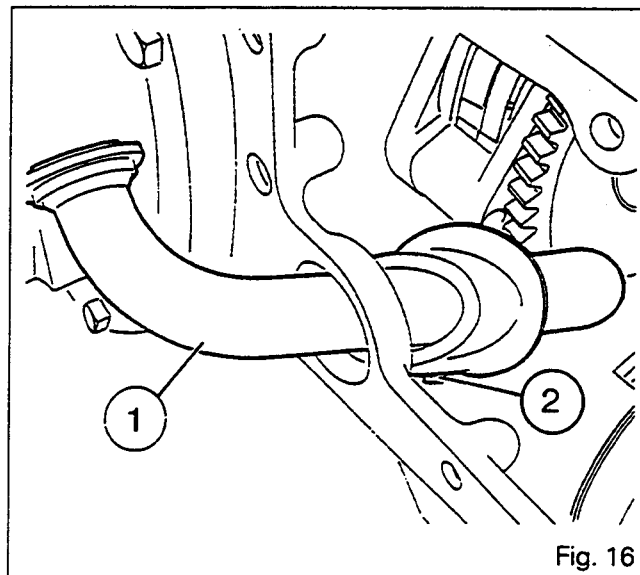

Fig. 16
59. Position the Hare/Tortoise fork (20) in the Hare position.
60. Remove the adjusting screws (19).
61. Take out the bolts (16) and remove the cover (15).
62. Remove the Hare/Tortoise piston (13) and discard the seals.
63. Remove the cylinder (10) and discard the seal.
64. Turn the pump suction pipe (1) so that it is facing upwards.
**Note: Do not loosen the bolt (2) on the pipe clamp (Fig. 16).**